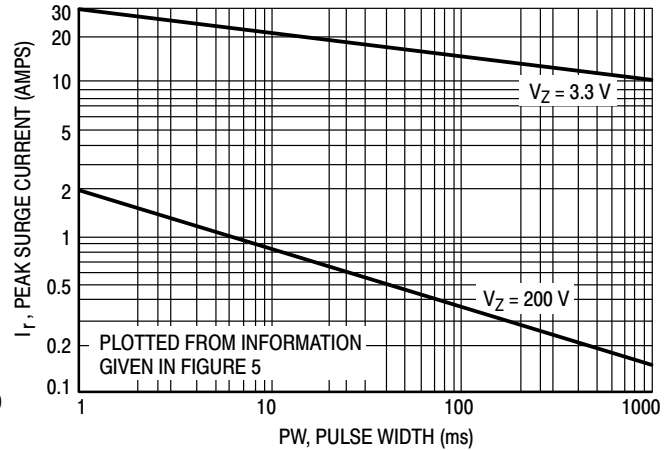

Figure 6. Peak Surge Current versus Pulse Width
- SURGE CURRENT (I_R):** Surge current is specified as the maximum allowable peak, non-recurrent square-wave current with a pulse width, PW, of 8.3 ms. The data given in Figure 5 may be used to find the maximum surge current for a square wave of any pulse width between 1 ms and 1000 ms by plotting the applicable points on logarithmic paper. Examples of this, using the 3.3 V and 200 V zener are shown in Figure 6. Mounting contact located as specified in Note 2 ($T_A = 25^\circ\text{C} + 8^\circ\text{C}, -2^\circ\text{C}$).
- SURGE CURRENT (I_R):** Surge current is specified as the maximum allowable peak, non-recurrent square-wave current with a pulse width, PW, of 8.3 ms. The data given in Figure 5 may be used to find the maximum surge current for a square wave of any pulse width between 1 ms and 1000 ms by plotting the applicable points on logarithmic paper. Examples of this, using the 3.3 V and 200 V zener are shown in Figure 6. Mounting contact located as specified in Note 7 ($T_A = 25^\circ\text{C} + 8^\circ\text{C}, -2^\circ\text{C}$).